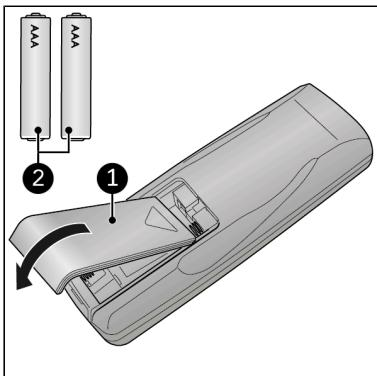

Figure 31.
1. Remove the cover (Figure 31, pos. 1).
3. Insert two batteries (AAA 1.5V) (Figure 31, pos. 2) in the battery compartment as indicated. Make sure to insert the batteries correctly.